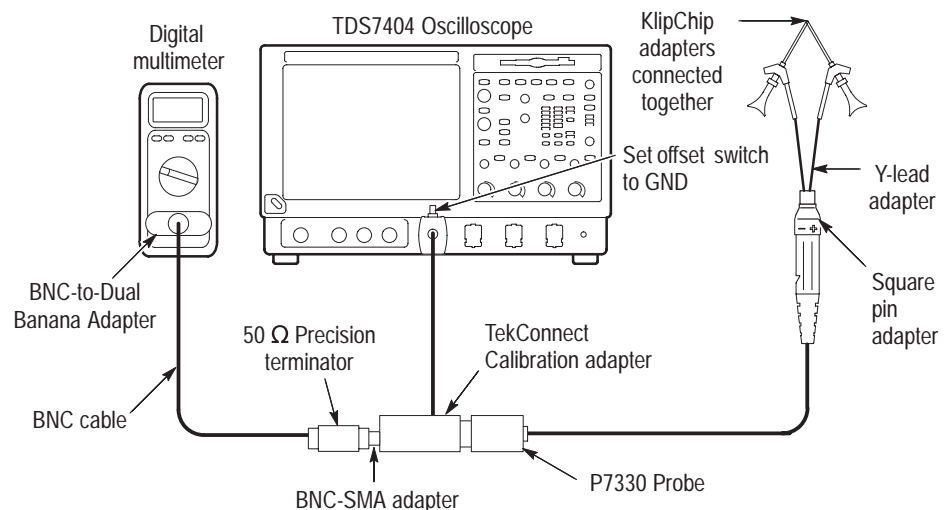

Figure 12: Setup for offset zero
1. Connect the test equipment as shown in Figure 12.